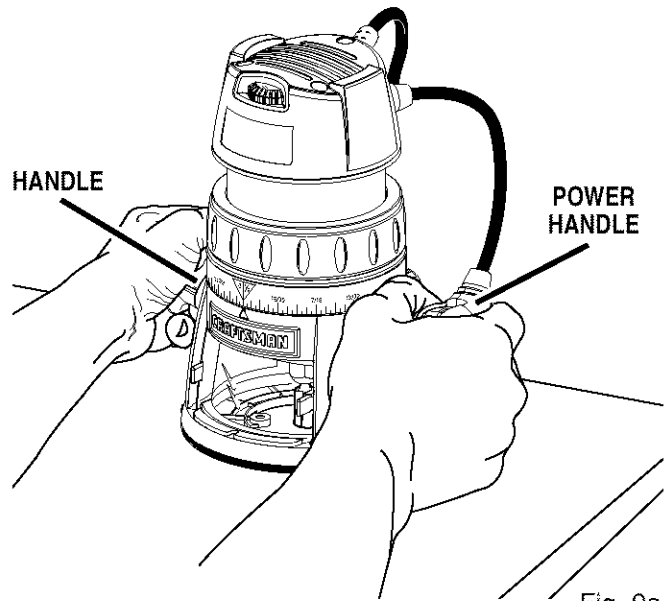

Fig. 9a
- Grasp handles using both hands. *See Figure 9a.*